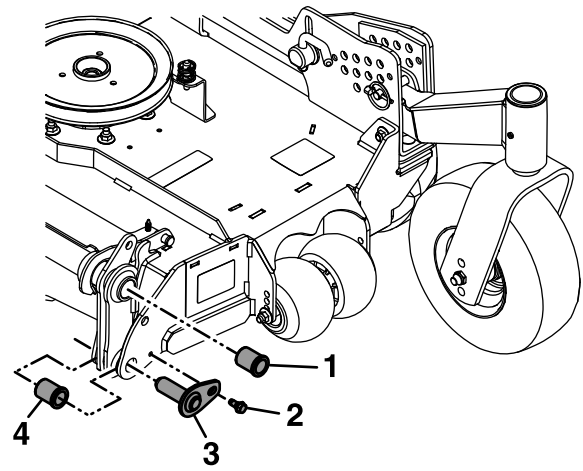

**Figure 85**
12. Remove and retain the bolts that secure the upper pivot pins to the deck and then remove the pivot pins (Figure 85).
13. Pull the wing deck outward to separate it from the center deck section (Figure 85).
Align and install the upper pivot deck pins in the front and rear of the deck and secure it using the previously removed bolts (Figure 85).